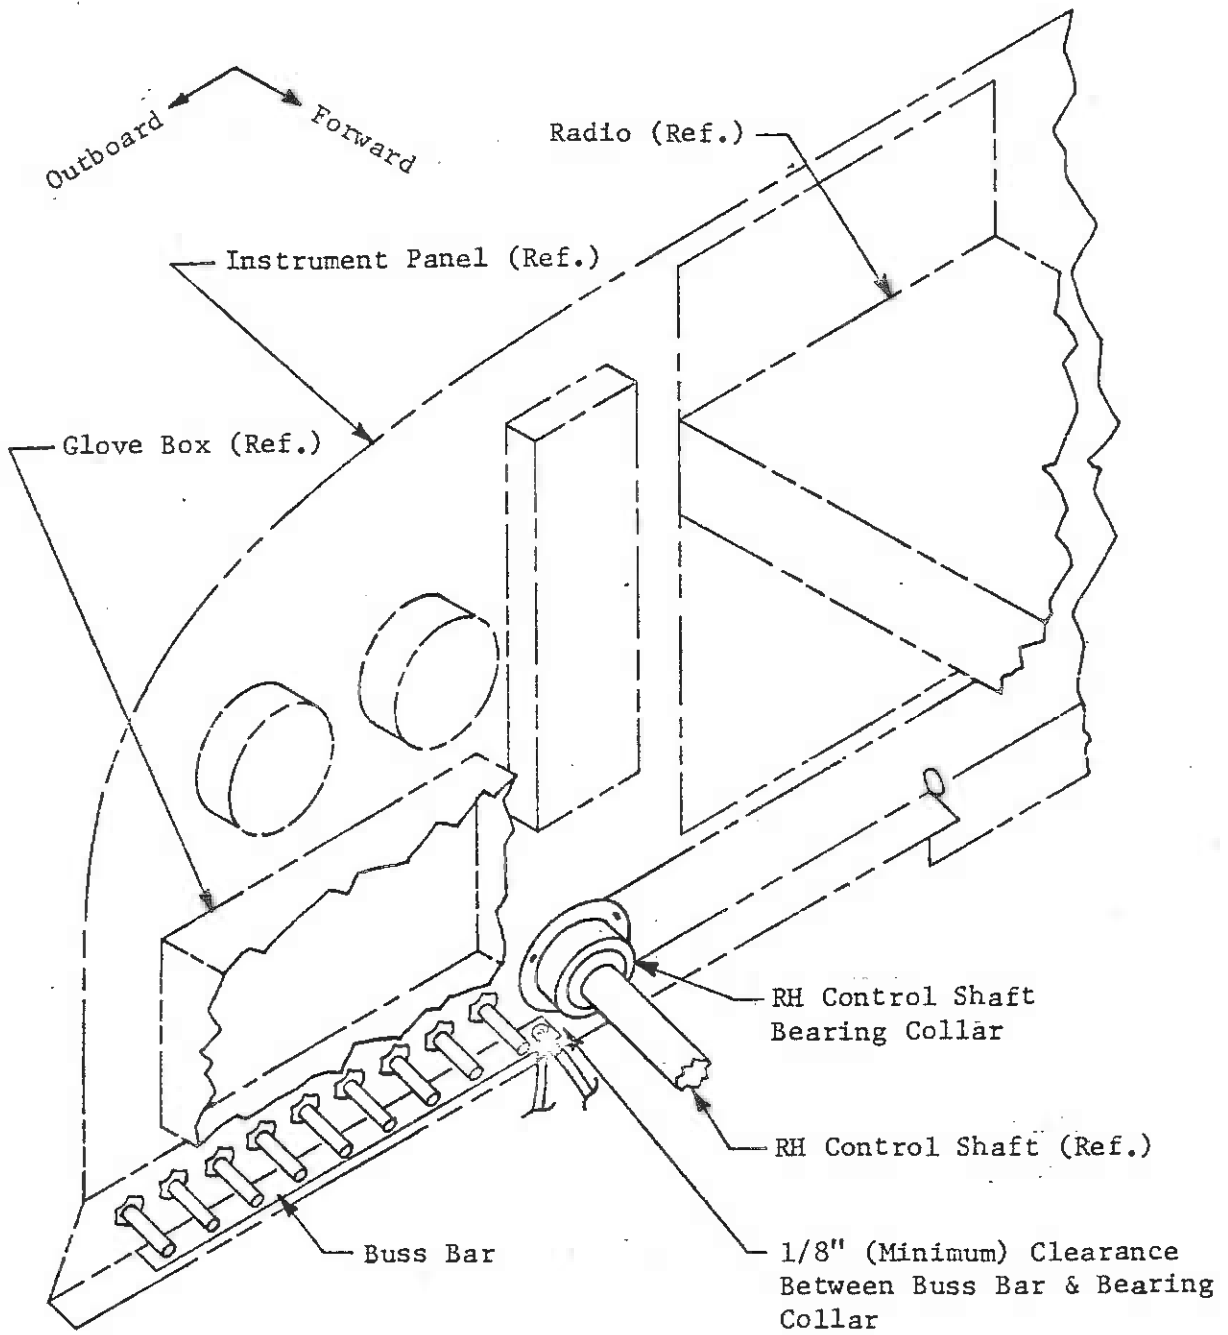

Figure 1. Buss Bar/Bearing Collar Clearance
The minimum clearance between the buss bar and the right hand control shaft bearing collar is 1/8" (See Figure 1). This clearance may be checked as follows:
4. Bend or trim the inboard aft corner of the buss bar to obtain 1/8" clearance between buss bar and the right hand control shaft bearing collar (See Figure 1).